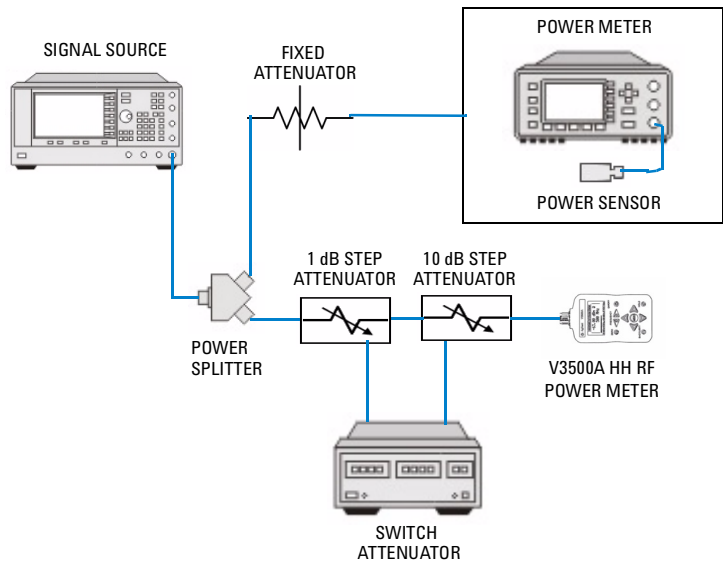

Figure 3-5 Linearity test setup
- 3 Set up the instruments as shown in Figure 3-5 on page 22.